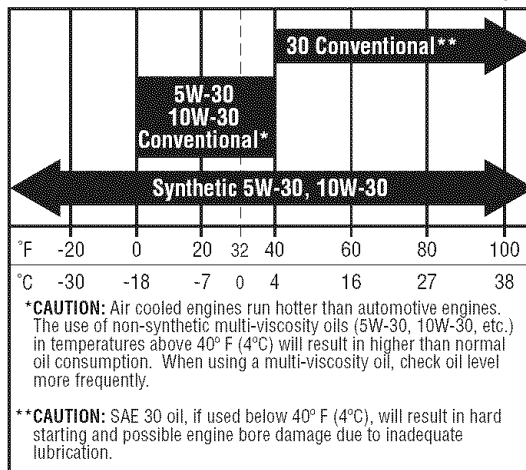
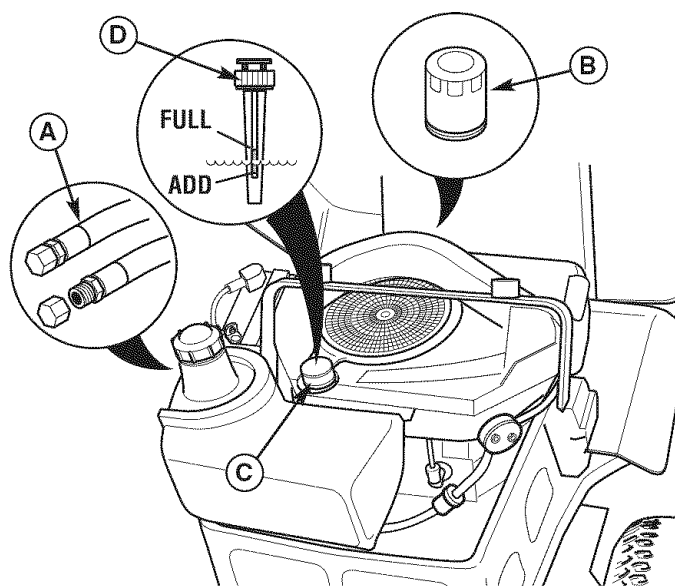

Figure 26. Recommended Engine Oil - Briggs & Stratton Models
Figure 27. Oil Change - Briggs & Stratton Models
2. Clean the area around the dip stick (C, Figure 27).
3. Remove the dip stick (C) and clean it with a paper towel.
4. Insert the dip stick back into the engine. Thread the cap back onto the tube (D).
5. Remove the dip stick and read the oil level. The oil level should be between the “FULL” and “ADD” marks (D). If not, add oil according to the oil recommendations chart (Figure 26).
1. Clean the area around the dip stick (C, Figure 27) and oil drain tube (A).
2. Remove the oil drain plug (A) from the end of the oil drain tube. Remove the dip stick (C). Allow ample time for complete drainage.
3. Reinstall the oil drain plug (A) and route the hose next to the engine.
1. Clean the area around the dip stick (C, Figure 27) and oil drain (A).
2. Remove the oil drain plug (A) and dip stick (C). Allow ample time for complete drainage.
3. Remove the oil filter (B). Discard the filter.
2. Remove the cover (B). Remove the filter (C, Figure 27) and pre-cleaner (D).
3. Install the pre-cleaner (D) with the mesh side up. Install the filter (C) as shown.